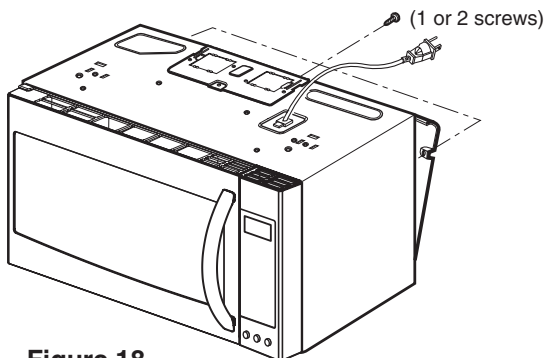

Figure 18
- (1) Remove the mounting plate by loosening mounting plate screws (1 or 2 screws) securing it to the back plate. (See Figure 18)